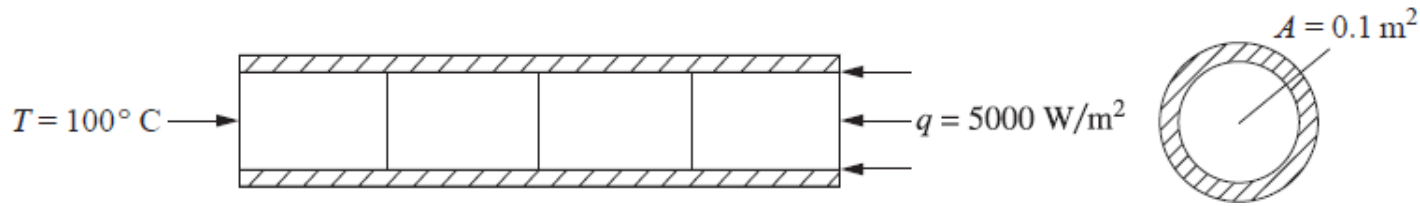

Figure P7.6
6. The fin shown in **Figure P7.6** is insulated on the perimeter. The left end has a constant temperature of 100°C . A positive heat flux of $q = 5000 \text{ W/m}^2$ acts on the right end. Let $K = 6 \text{ W/m}\cdot^\circ\text{C}$ and cross-sectional area $A = 0.1 \text{ m}^2$. Determine the temperatures at $L/4$, $L/2$, $3L/4$, and L ; where $L = 0.4 \text{ m}$.